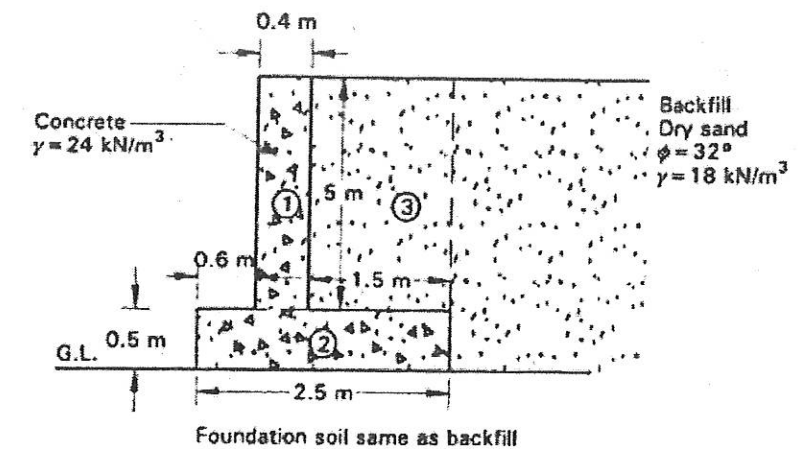

Fig. Q 16 (b).
- (b) A cantilever retaining wall retains dry sand to a depth of 5.5 m as shown in figure. Q. 16(b) Check the stability of retaining wall and pressure. Safe bearing capacity is 250 kN/m².